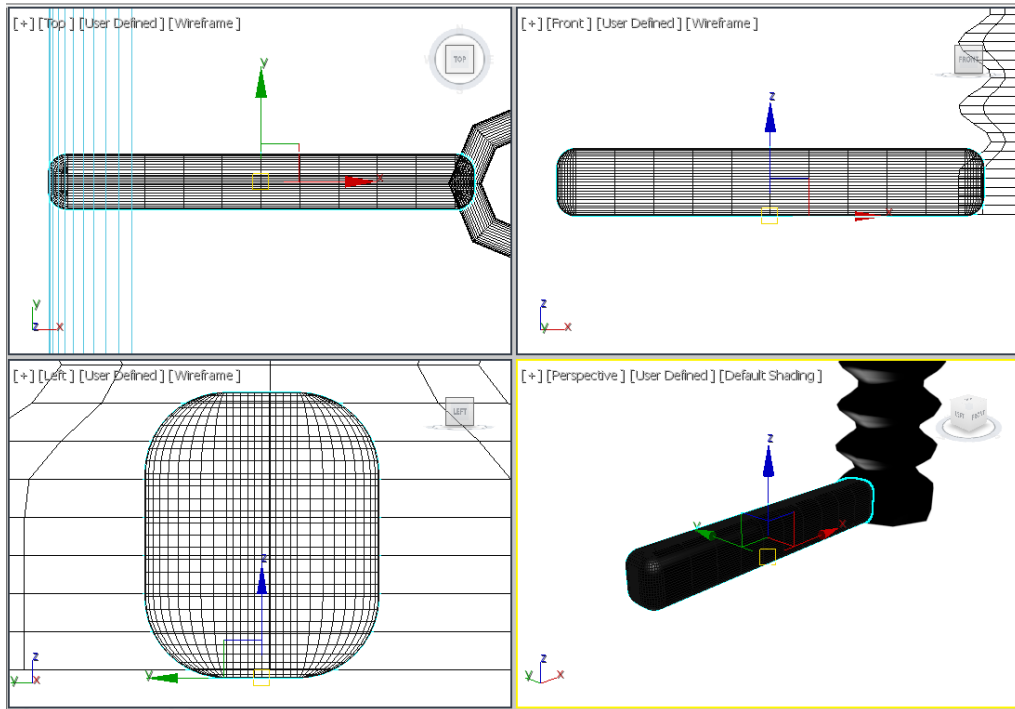

Figure 3-39 The leg01 geometry after invoking the **Zoom Extents All Selected** tool
7. Make sure that *leg01* is selected, and then choose the **Zoom Extents All Selected** tool; *leg01* is zoomed in all viewports, as shown in Figure 3-39.